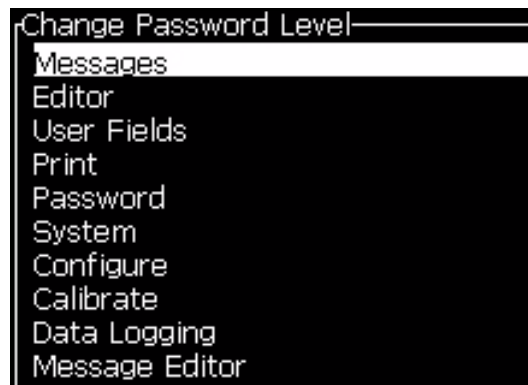
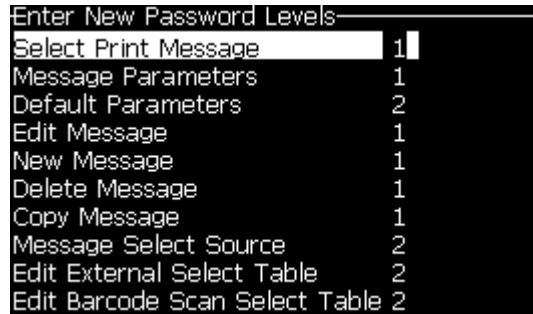

Figure 4-9: Change Password Level
Figure 4-10: Enter New Password Levels
- 1 Press *Alt+W* and select *Set Password Levels* (see Figure 4-8) to open the *Change Password Levels* screen (see Figure 4-9).
- 2 Select the menu (see Figure 4-9) that needs a change in the password level access and press the *Enter* key. The *Enter New Password Level* screen appears (see Figure 4-10 on page 4-6).